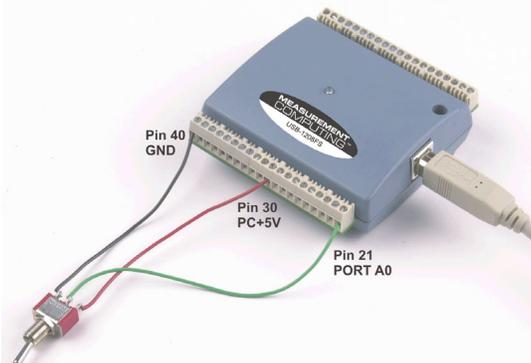
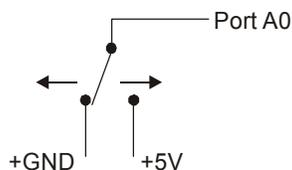

Figure 3-7. Digital connection Port A0 detecting the state of a switch
Figure 3-8. Schematic showing switch detection by digital channel Port A0
When you configure the digital bits for input, you can use the digital I/O terminals to detect the state of any TTL level input. Refer to the switch shown in Figure 3-7 and the schematic shown in Figure 3-8. If the switch is set to the +5 V input, Port A0 reads *TRUE* (1). If you move the switch to GND, Port A0 reads *FALSE*.